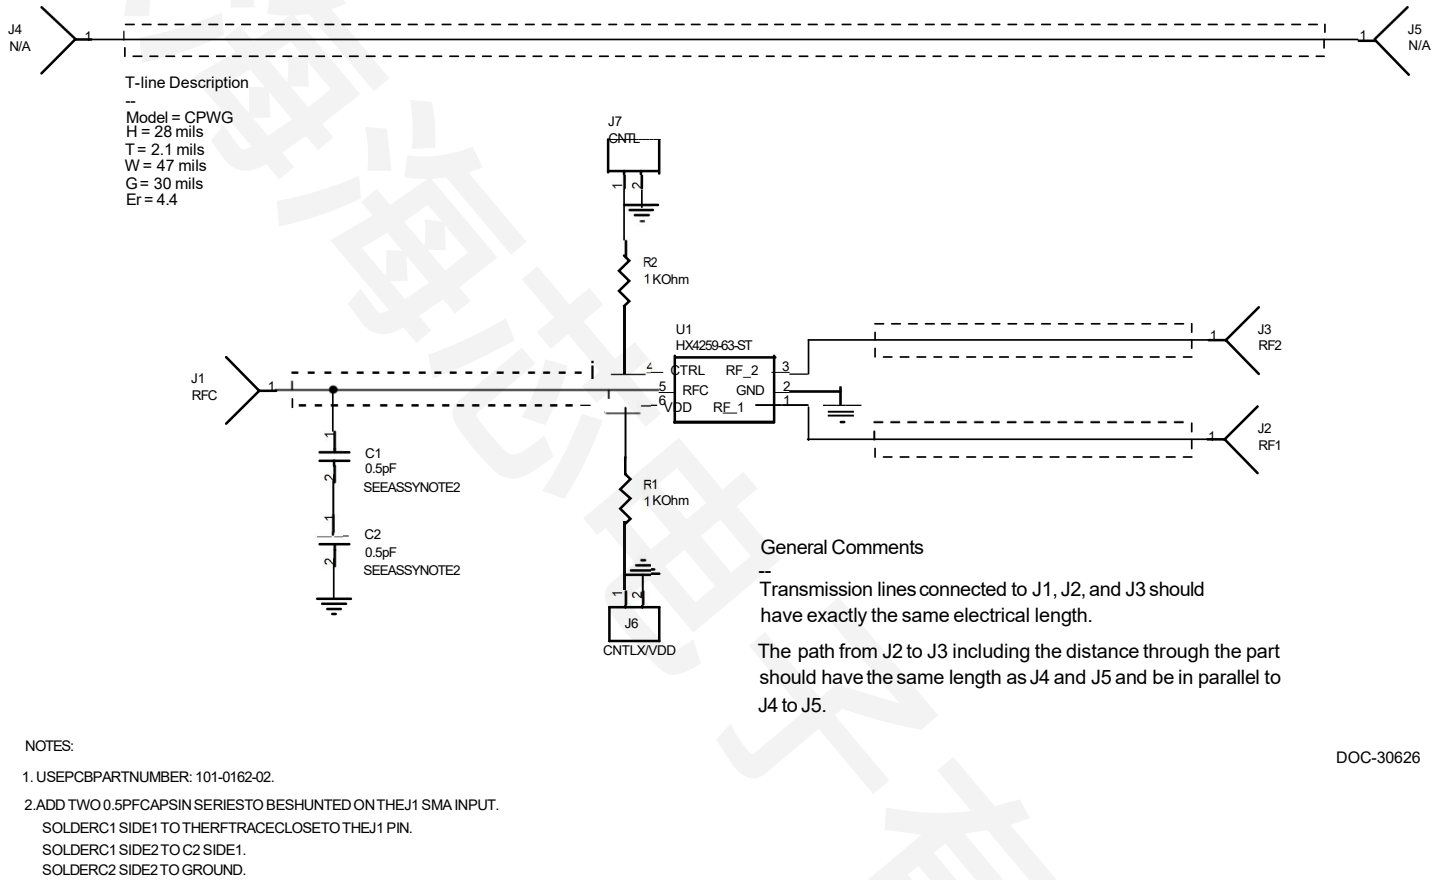

Figure 6. Evaluation Board Schematic
3. A tuning capacitor must be added to the application board to optimize the insertion loss and return loss performance. See *Figure 6* for details.